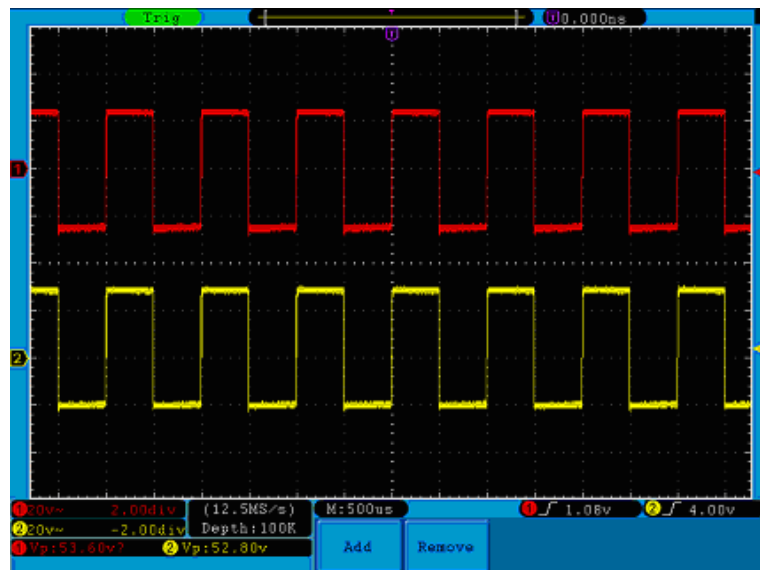

Figure 83. Waveform of Gain Measurement.
- 8 Read the peak-to-peak voltages of Channel 1 and Channel 2 from the bottom left of the screen (See Figure 83.).